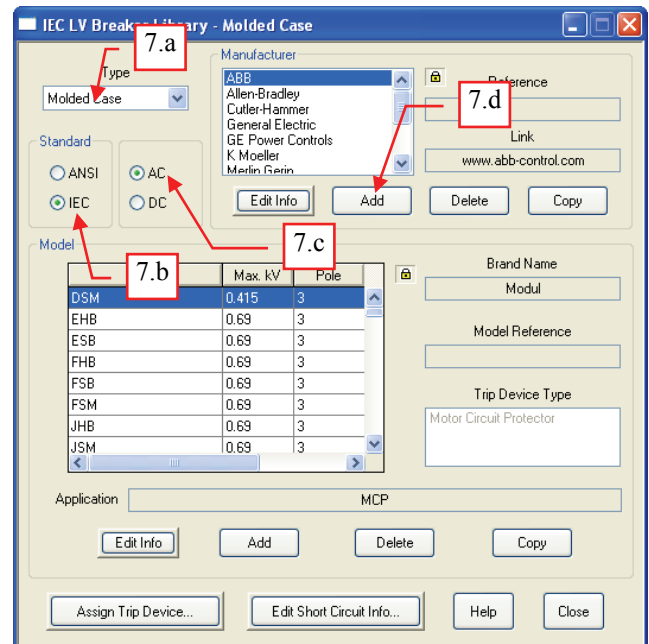

Fig. 6
7. Guided by the information in Table 1, page 1; In the “[X] LV Breaker Library – [Y]” dialog box, do the following (see Fig. 6):